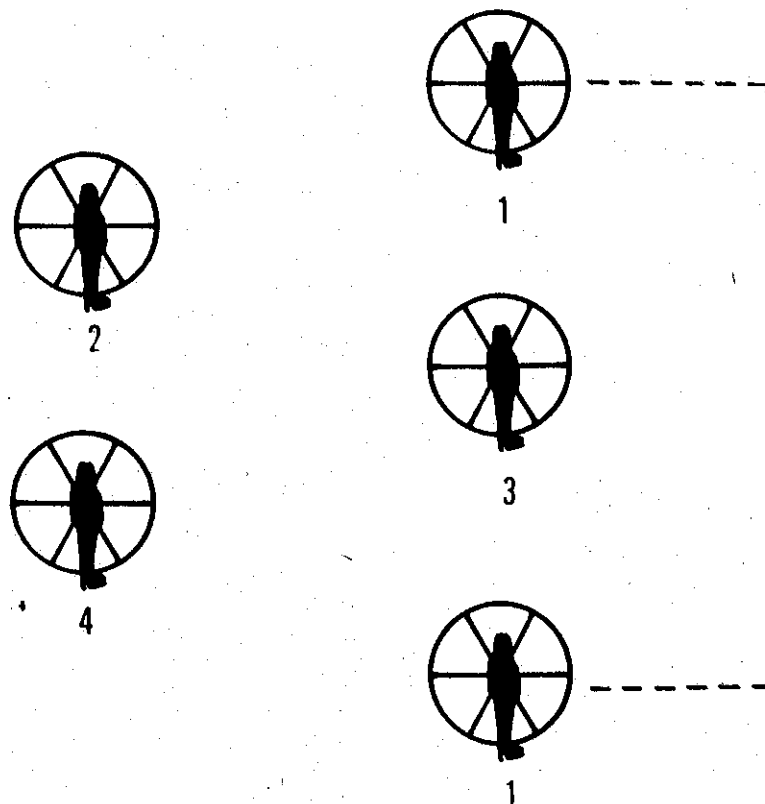

Figure 14-4. Lead Changes—Staggered Left Formation.
(3) Cargo Compartment Lights (As required)
(4) Position Lights - ON
(5) Anticollision Lights - OFF (on for last aircraft in formation when above 300 ft AGL)
b. Formations are normally flown with a maximum of five (5) aircraft to insure safe lost visual procedures. If VMC is assured and circumstances require larger formations, they may be used.
b. Lead Change (Figs 14-4, 5, 6). Formation lead changes can be directed ONLY by the lead aircraft. Lead changes will be acknowledged by all flight aircraft prior to execution. Lead changes and formation changes will not be accomplished simultaneously. However, a staggered formation will switch sides when #2 becomes lead without any repositioning of aircraft. The new lead may change formations after the lead change is completed. When lead has received acknowledgement of lead change from all aircraft, it will give the execute signal, immediately turn away from its number two wingman, and when clear, decelerate so that the flight will pass. Lead will then fall back into formation as trail. If a lead change is initiated from a trail formation, the lead will always clear to the right. Lead will use scanners to stay clear of the flight.
(1) The aircraft assuming lead will state "abeam" when approaching abeam the leader, and ready to assume formation lead. The lead, when ready to relinquish formation lead, will state "tally-ho." The new lead states "assuming lead" and takes up the appropriate squawk.
(2) Maintain the original formation call sign regardless of the number of lead changes.